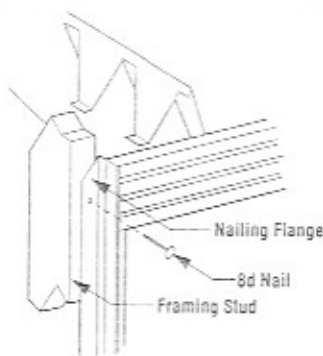

Figure 20
Step 5. Fireplace should be secured to side framing members using nailing flanges. Use 8d nails (Figure 20).